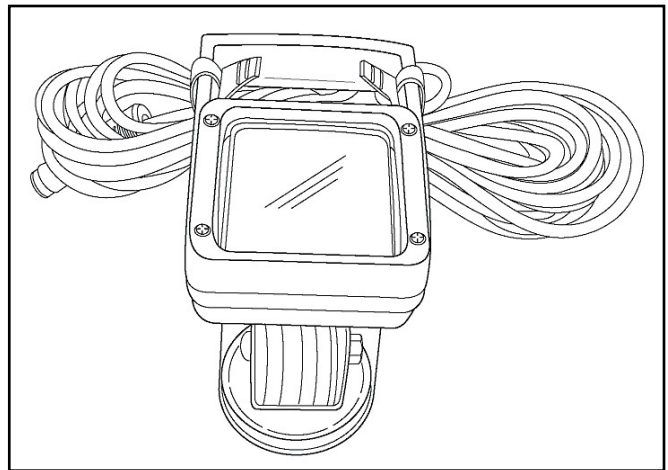

Figure 40.1
- Service Light – Hand held portable work light with a magnetic base mount (*see figure 40.1*)